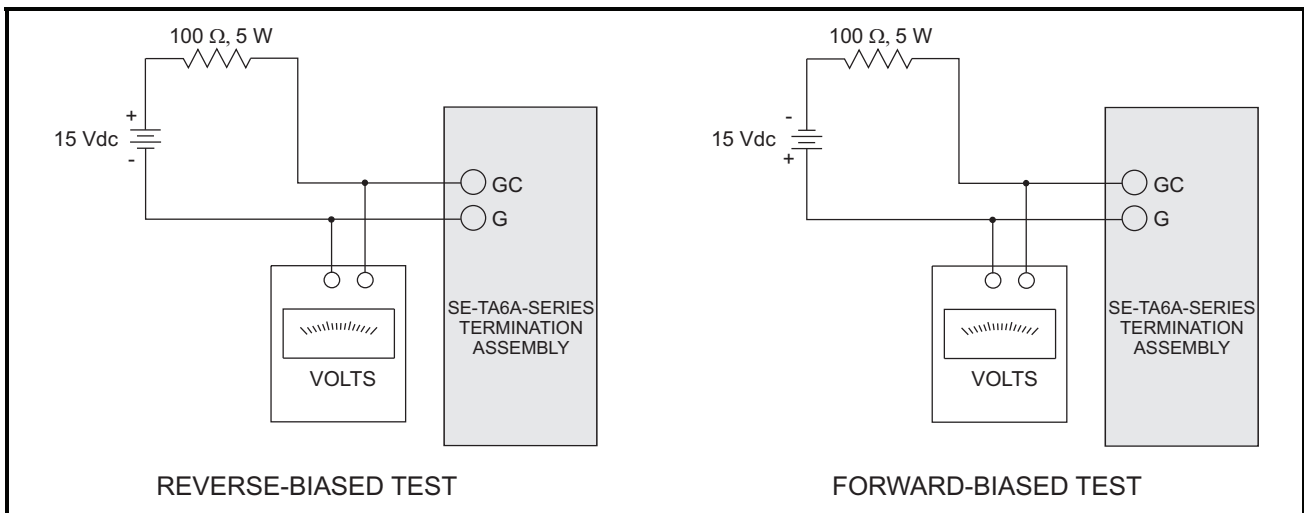

FIGURE 11. Termination-Assembly-Test Circuits.
- Apply 15 Vdc across the series combination of a 100-Ω, 5-W current-limiting resistor and the termination assembly, as shown in Fig. 11. In the reverse biased test, the voltage should be 5.6 V across the termination assembly terminals. In the forward biased test, the voltage across the termination assembly terminals should be between 0.3 and 0.9 V.